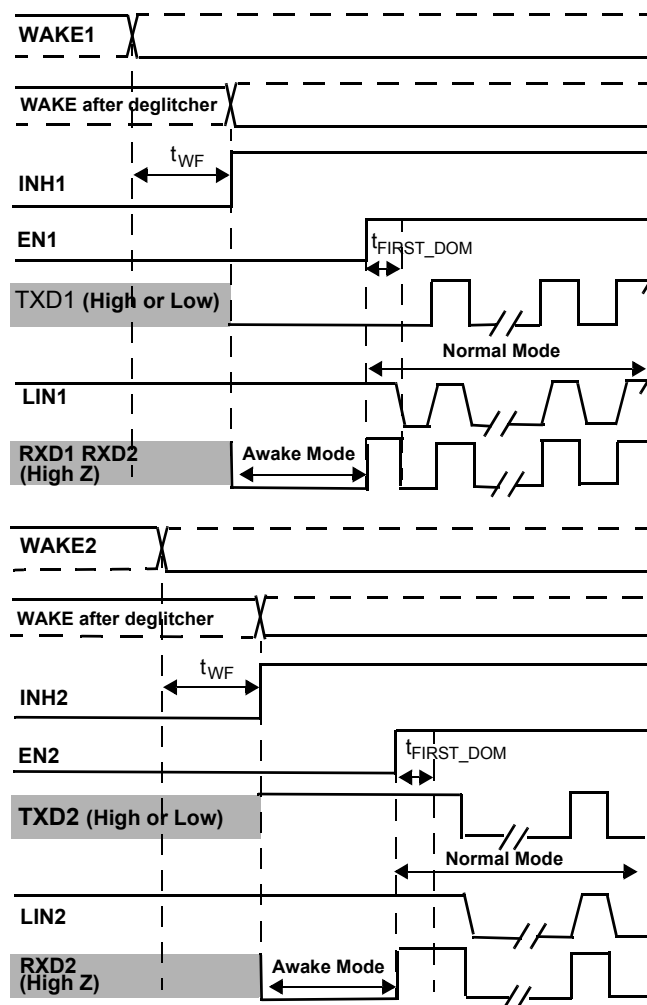

Figure 16. LIN Module 1 Wake1 Pin Wake-up with TXD1 Low & LIN Module 2 Wake2 Pin Wake-up with TXD2 High
27. See Figures 16, 22, and 23
An internal filter is implemented to avoid false wake-up event due to parasitic pulses (See Figure 16). WAKE1 (WAKE2) pin input structure exhibits a high-impedance, with extremely low input current when voltage at this pin is below 27 V. Two serial resistors should be inserted in order to limit the input current mainly during transient pulses and ESD. The total recommended resistor value is 33 k Ω . An external 10 to 100 nF capacitor is advised for better EMC and ESD performances.